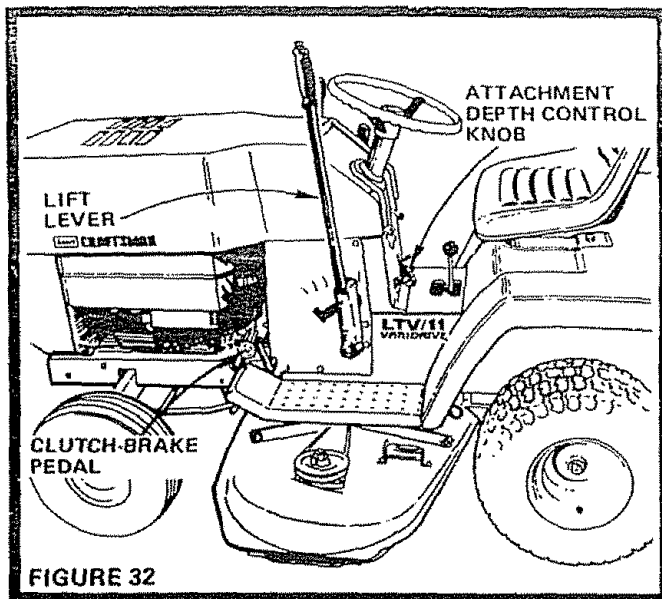

FIGURE 32
ADJUST MOWER TO MIDDLE OF CUTTING RANGE AS FOLLOWS. WITH LIFT CONTROL LEVER LOCKED IN UP (REAR) POSITION, TURN ATTACHMENT DEPTH CONTROL KNOB COUNTERCLOCKWISE UNTIL LIFT LEVER IS IN MID RANGE (FIG. 32). ENGAGE THE PARKING BRAKE, RETURN SHIFT CONTROL LEVER TO NEUTRAL. SHUT OFF ENGINE, MAKE ABSOLUTELY SURE THE BLADES AND ALL MOVING PARTS HAVE COMPLETELY STOPPED. REMOVE THE IGNITION KEY, DISCONNECT THE SPARK PLUG AND KEEP WIRE AWAY FROM THE PLUG TO PREVENT INJURY FROM ACCIDENTAL STARTING.
2. Push tractor Clutch-Brake Pedal (Fig. 32) fully into brake position.